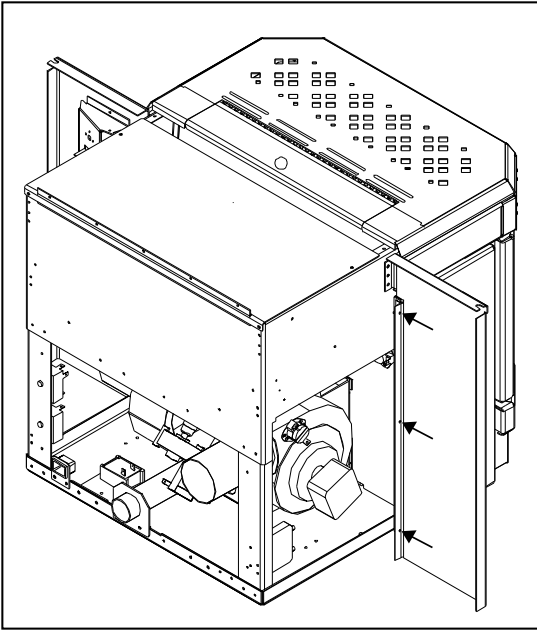

Figure 37: Panel placed on unit.
4. Using three (3) T-20 screws on each side attach the hinges on the side surround panels to the unit's side panels (refer to Figure 37).